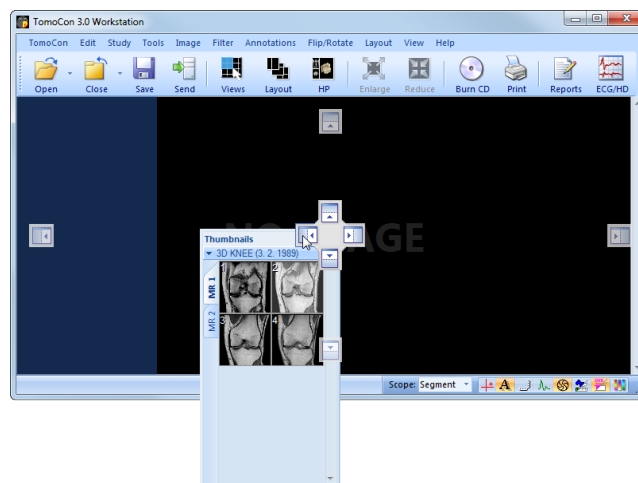

Figure 23 – Docking thumbnails palette to left side of TomoCon
2. Move the panel over the left docking navigator . A new docking position for the thumbnails palette will be displayed with blue translucent color (see Figure 23).